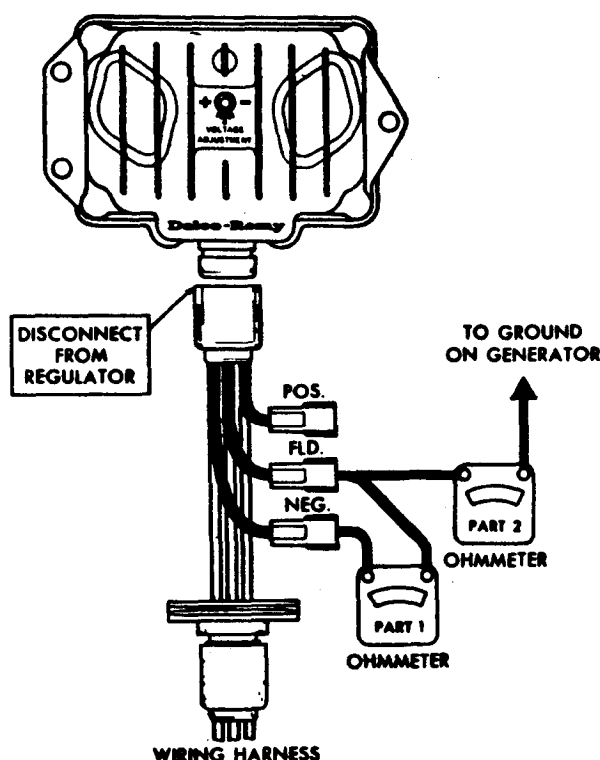

Figure 12—Ohmmeter connections to test adapter.
- c. Connect an ohmmeter to the adapter as shown in Part 1, Figure 12.
- g. To check the winding in positive ground circuits for grounds, connect the ohmmeter as shown in Part 2, Figure 12. If the reading is less than the specified value, the winding is grounded.